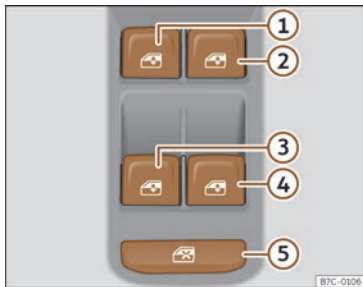

Fig. 82 Detail of the driver's door: window controls.
The safety control >>> **Fig. 82 ⑤** on the driver's door can be used to disable the power window buttons on the rear doors.